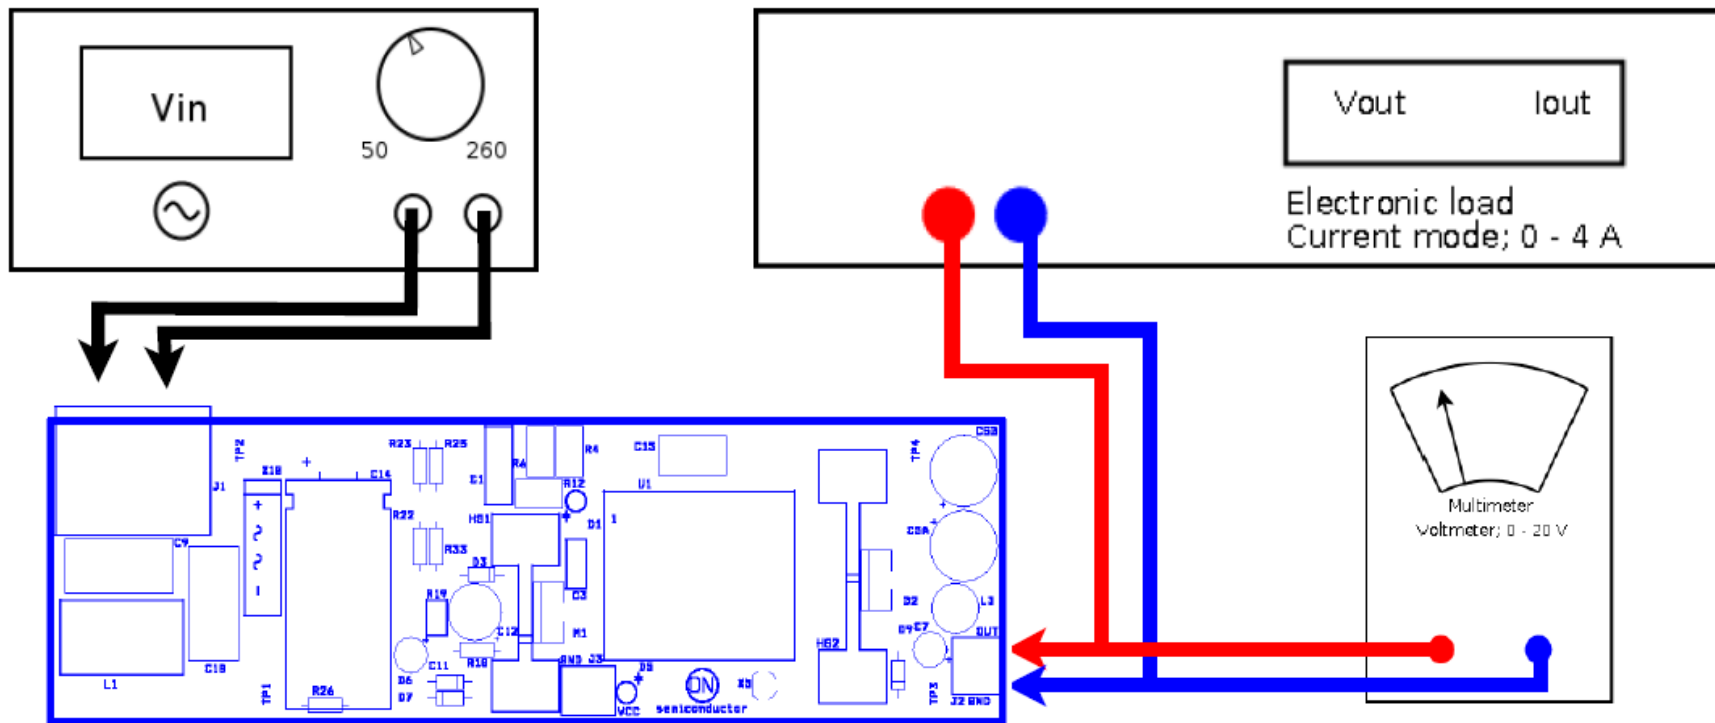

Figure 1: Test Setup
2. Connect the equipments to the board as shown in Figure 1.